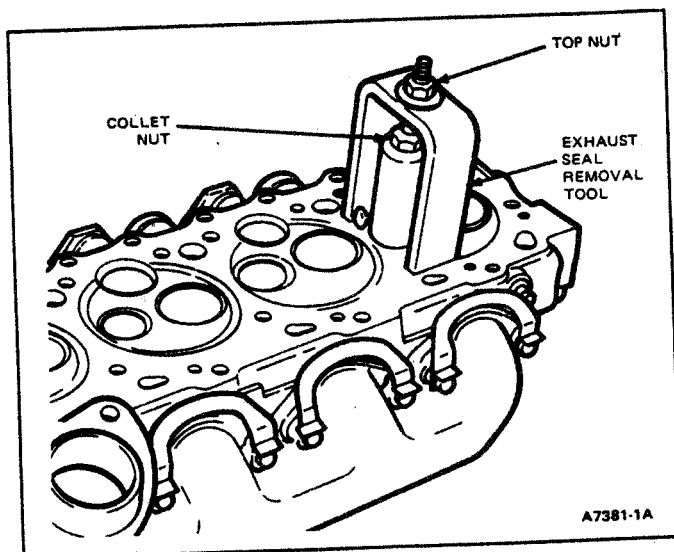

FIG. 71 Exhaust Seat Insert Removal
1. Use Rotunda Model 014-00309, to remove damaged or loose seats (Fig. 71). Position removal collet into insert and rotate collet nut clockwise to expand collet jaws under lip of seat insert.